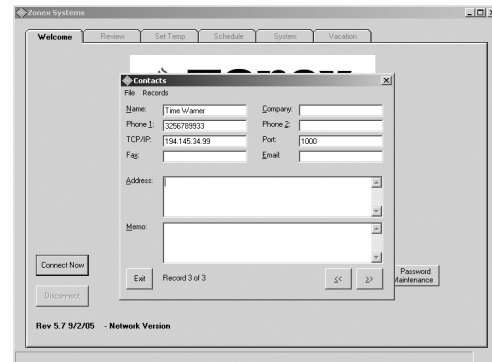

Fig. 4
- d. Verify that the **Contacts** window appears (see Fig. 4).
- Verify that the **Contacts** window appears (see Fig. 4).